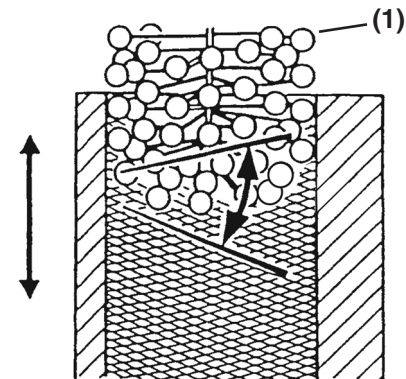

Figure 6-125
Note: When honing a cylinder, with either a ridged hone or a ball hone (**Figure 6-125, (1)**), move the rotating hone up and down in the cylinder bore to accomplish a 30° to 40° crosshatch pattern (**Figure 6-125**). This will provide the ideal surface for the proper seating of new piston rings.